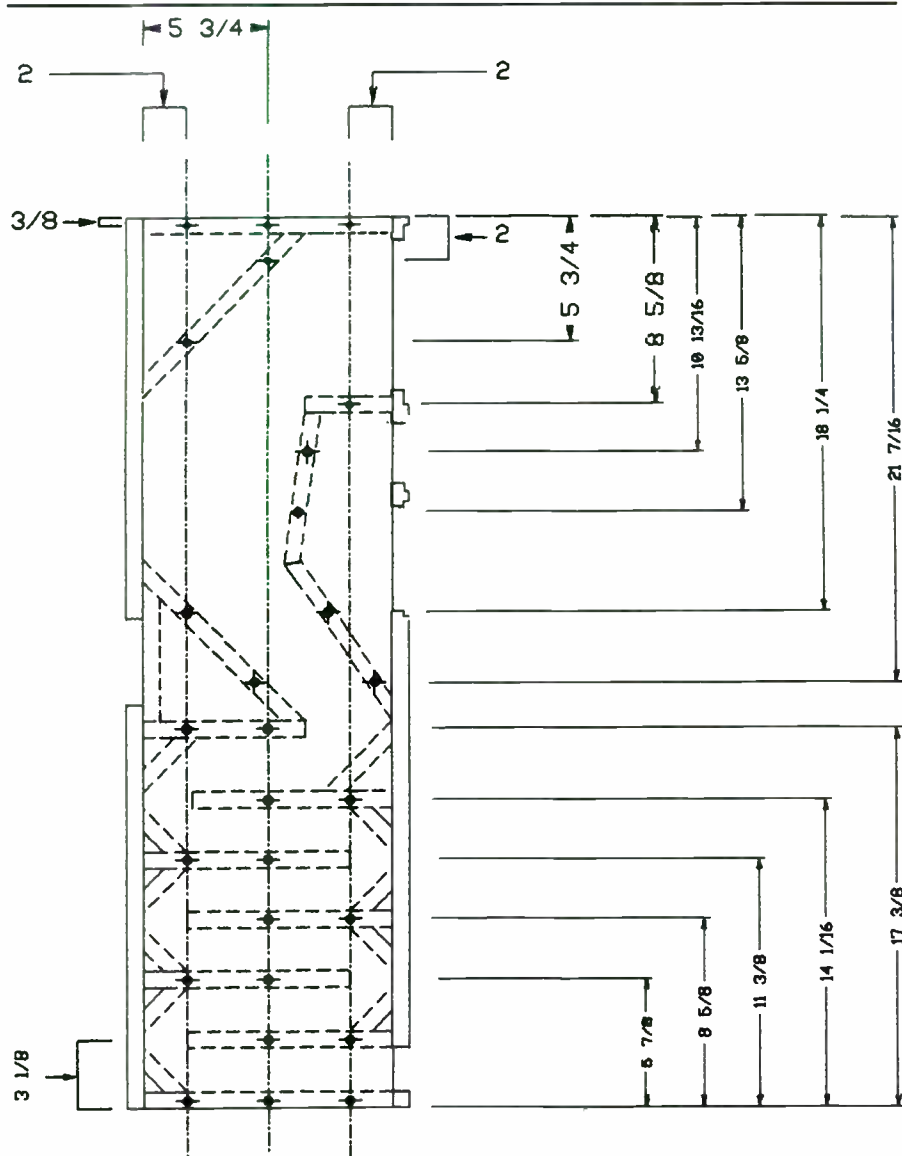

FIGURE 5: Side panel screw layout guide.
3. Follow Fig. 5 to mark screw locations along the baffle centerlines drawn on the first A panel. Use an awl or a nail to punch screw locations into the panel to center the bit. Drill all the holes with a bit sized for #8 screws. If you use a drill alignment jig, it will keep the holes at right angles.